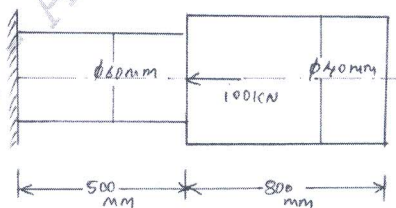

Fig. Q3 (b)
- b. For the axially loaded bar shown in Fig. Q3 (b). Determine nodal displacement and stress in each element. Given $E_{\text{steel}} = 2 \times 10^5 \text{ MPa}$, $E_{\text{cu}} = 1 \times 10^5 \text{ MPa}$